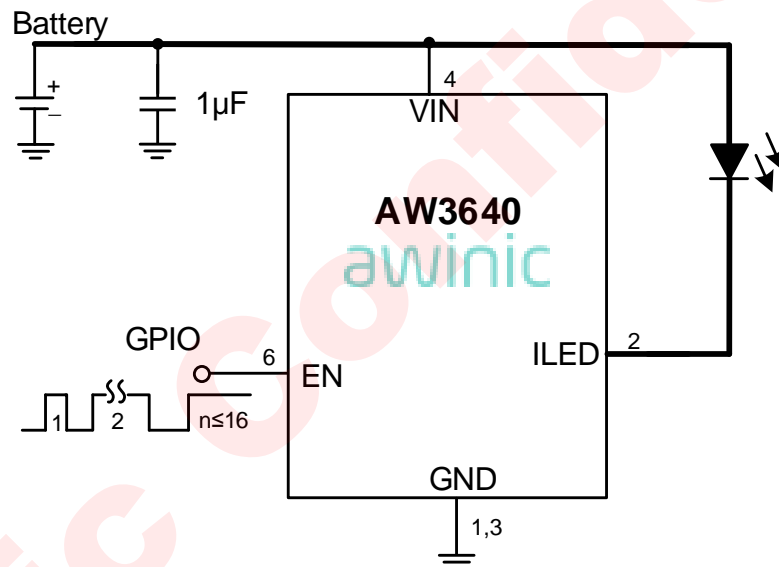

Figure 2 AW3640 Application Circuit for Single LED
- 2、 Route the power line (shown in Figure 2) as widely and shortly as possible to reduce parasitic impedance.